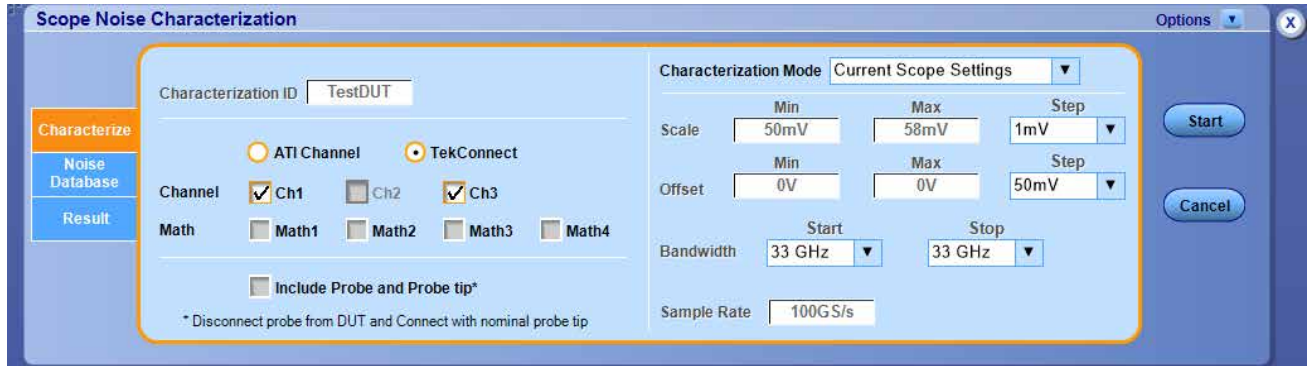

Figure 23: Characterize tab when "Current Scope Setting mode" is selected
10. Select the characterization mode as **Current Scope Settings**, as shown in Figure 23 on page 27.